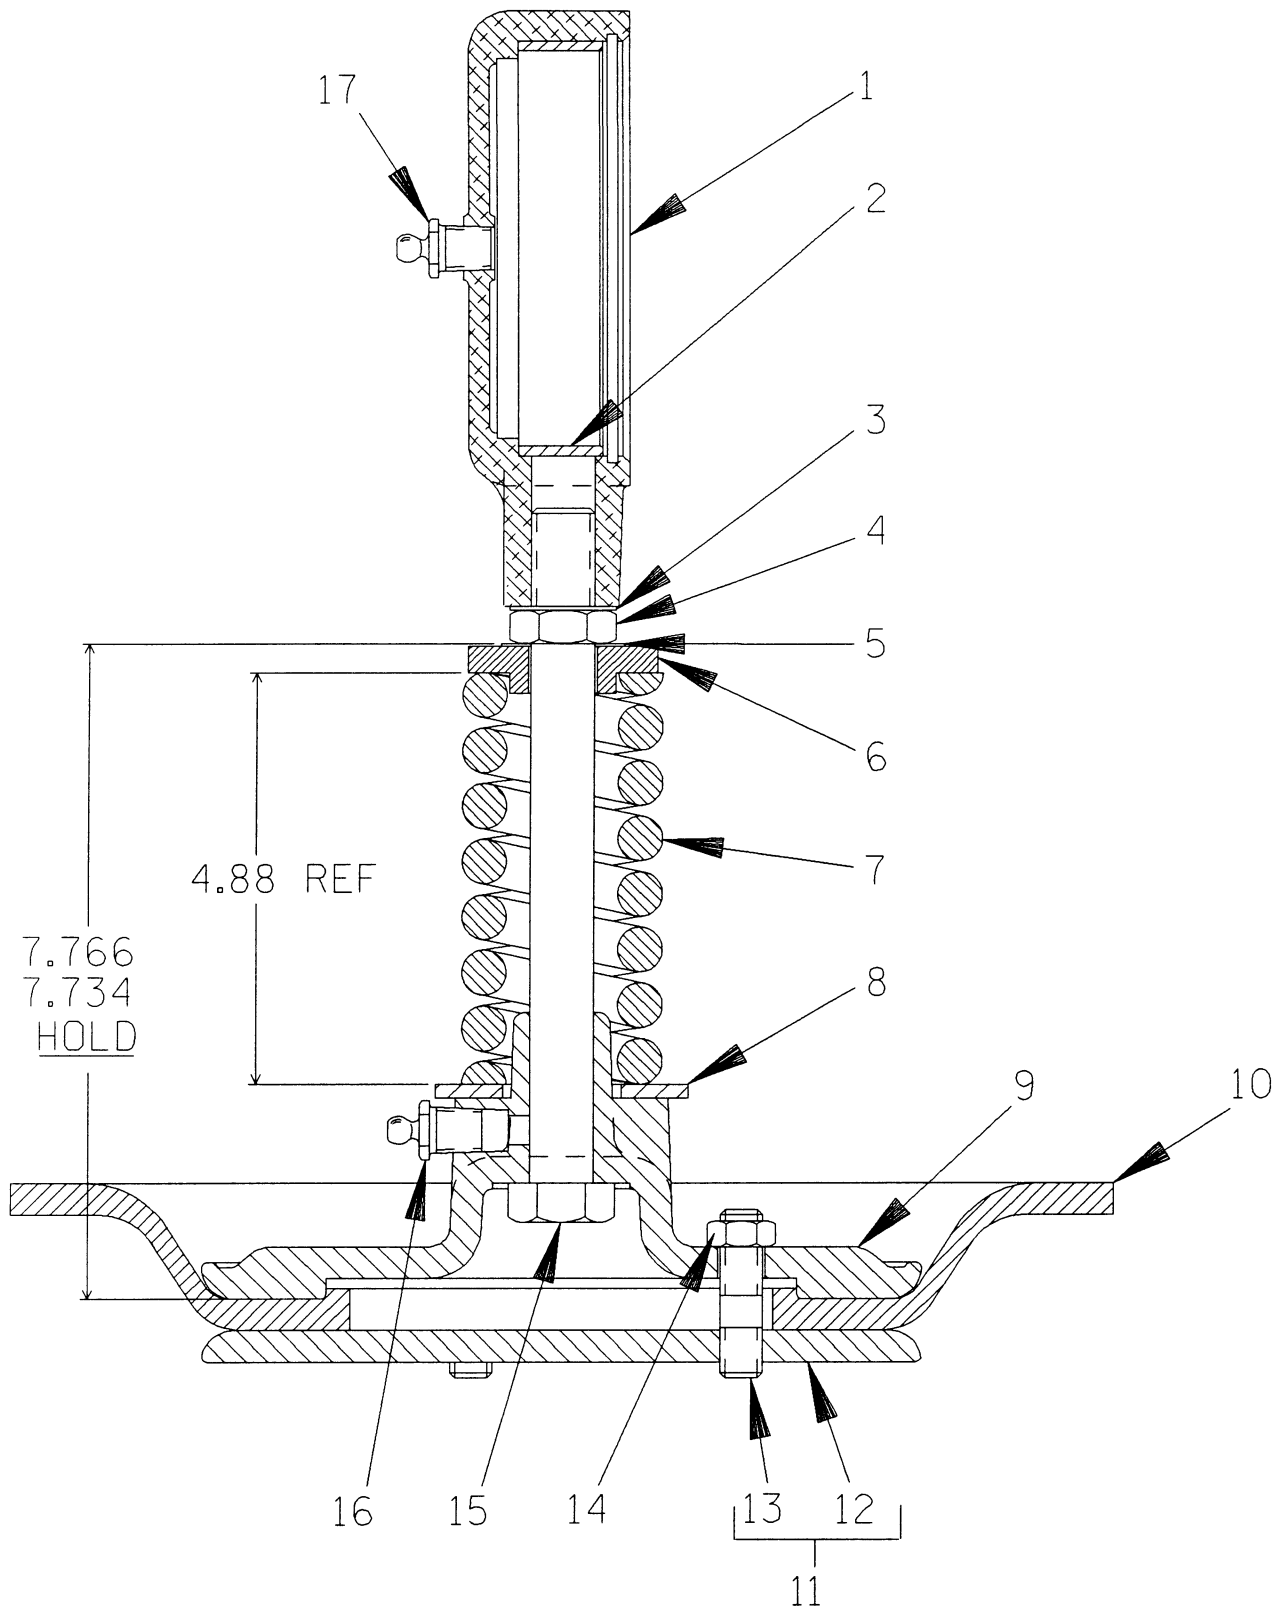

Figure 3. Standard 5685 And Optional 5685B Plunger Rod Assembly
To remove the diaphragm (10, Figure 3), disengage the hardware (32 and 33) and remove the diaphragm pot assembly (34). Inspect the diaphragm ring (36) for wear or damage. If replacement is required, the gearbox assembly (8) must be removed.
(Figure 3)